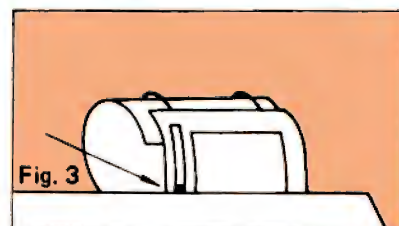

Fig. 3
3. After finishing pattern (a), CARD returns to starting position and buzzer sounds. The mark in L WINDOW appears at the CARD INLET. (see Fig. 3)
7. After finishing Pattern (b), CARD returns to starting position and buzzer sounds. The mark in L WINDOW appears at the CARD INLET. (see Fig. 3) Reset No. 1 & 6 Switches to lower position.